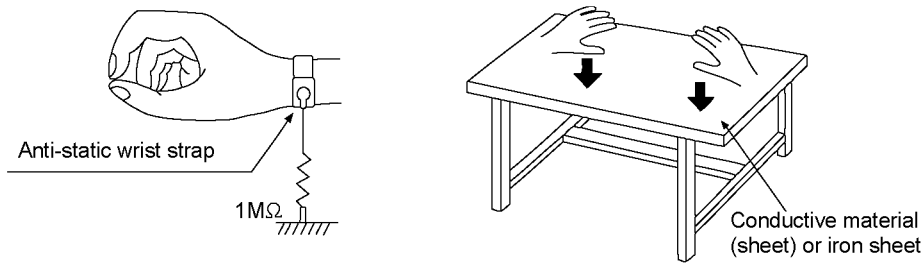

Figure 2-1
- Use the anti-static wrist strap to discharge the static electricity form your body Figure 2-1.